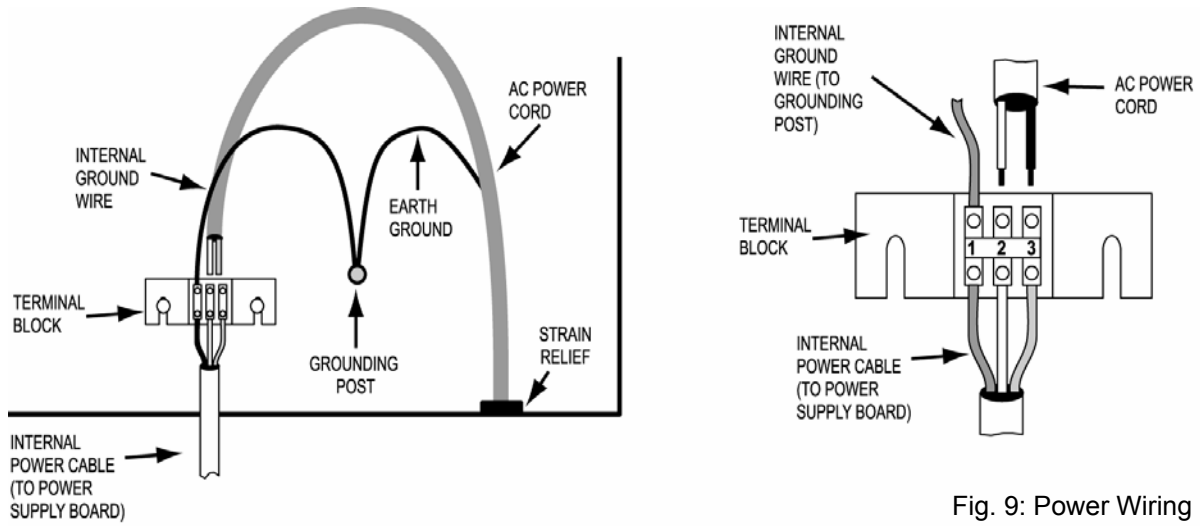

Fig. 9: Power Wiring
8. Ensure that the Internal Power Cable is connected to the Power Supply board. Please see Figure 9: Power Wiring.